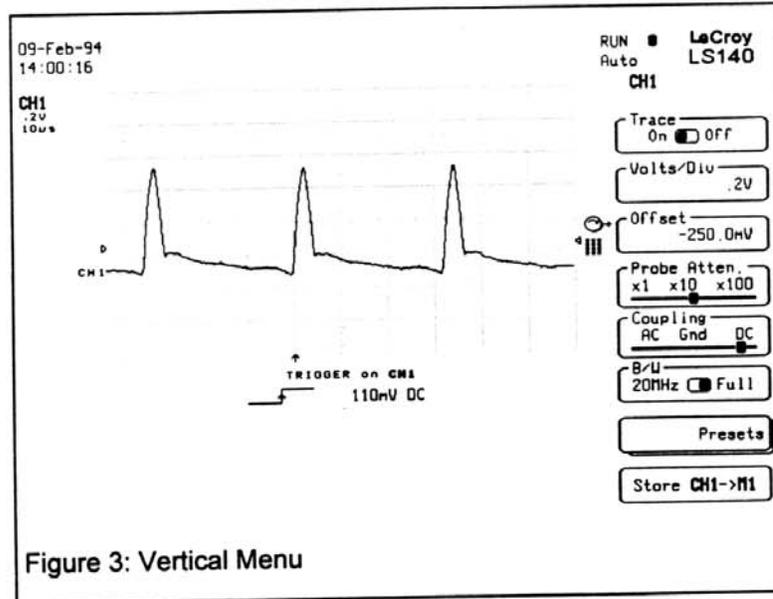

Figure 3: Vertical Menu
2. Press the operation key "AUTOSETUP". Then press the softkey "ALL" The signal from your probe will resemble one of the display traces of figure 3.
3. Adjust the low frequency compensation trimmer, located in the compensation box, at the BNC connector end of the cable using the non-metallic tool supplied with the probe, so that the base and top of the displayed squarewave are flat. The proper response is shown in the center trace of figure 3.
The vertical settings for each channel are setup independently using the operation keys Channel 1, Channel 2, Channel 3, Channel 4. The softkey menu for each channel is similar to channel 1 shown in figure 3.